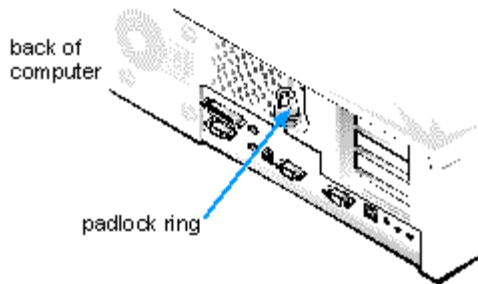

Figure 5-1. Padlock Installed
2. If you have installed a padlock through the padlock ring on the cover and the back panel (see Figure 5-1), remove the padlock.